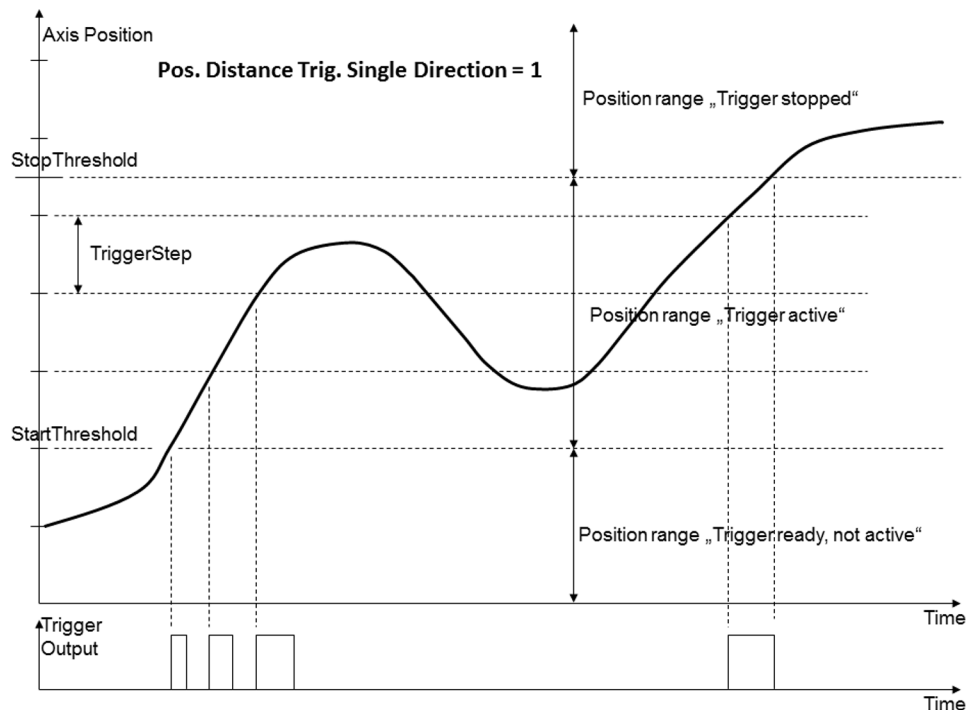

Figure 63: Position Distance trigger mode with threshold settings, trigger output only for positive direction of motion
- 1 = Trigger is generated only when the position is within the range defined by the start/stop thresholds **and** when the axis moves in the direction determined by the start/stop thresholds (Figure 63)